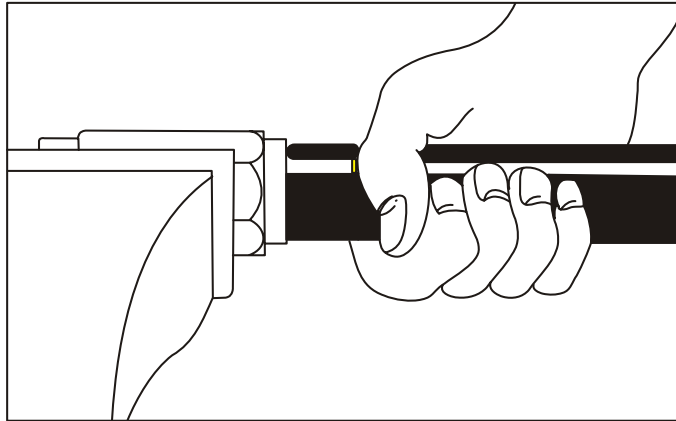

Figure 5 Removing Ferrule
- With the ferrule clamped in the vice, remove the hose by turning it in a clockwise direction (see Figure 5).